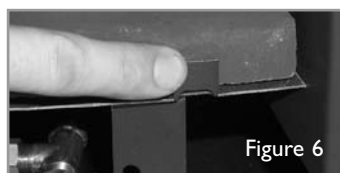

Figure 6
2. Position the front coal strip as shown in figure 5. The rear edge of the front coal strip should fit in front of the burner rail. Again, do not place on top of the burner rails. When the front coal is in position bend up the three metal tabs at the front of the tray to retain as shown in figure 6.